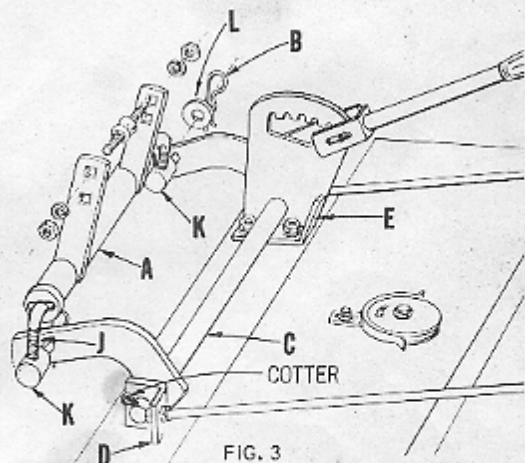

FIG. 3
3. Remove cotter from end of lift lever shaft and remove lift lever weldment (C) from L.H. lift shaft bracket, and insert in R.H. lift shaft bracket (D). Insert cotter in shaft and spread cotter. Refer to Fig. 3.
4. Remove spring retainers (B) and flat washers (L) from adjusting nuts (K). This releases rear hanger (A) from lift lever so that hanger can be bolted to tractor.
5. Assemble lift lever quadrant (E) to top of mower housing with two (3/8 - 16 UNC x 3/4) carriage bolts, lockwashers and nuts provided. Refer to Fig. 3.
- Height of cut can be adjusted by means of the lift lever. Moving the lever forward lowers the mower, while moving it backward raises the mower. The lever latch is actuated by depressing the latch button at the top of the lever handle. Each notch changes the height of cut approximately 1/2 inch. Should some intermediate height be desired, this can be obtained by lengthening or shortening each of the adjusting rods (J, Fig. 3) an equal amount. This adjustment does not affect the fore and aft tilt of the mower, since the mower is attached to the tractor by means of the parallel linkage which causes it to raise and lower the same at the front as at the rear.